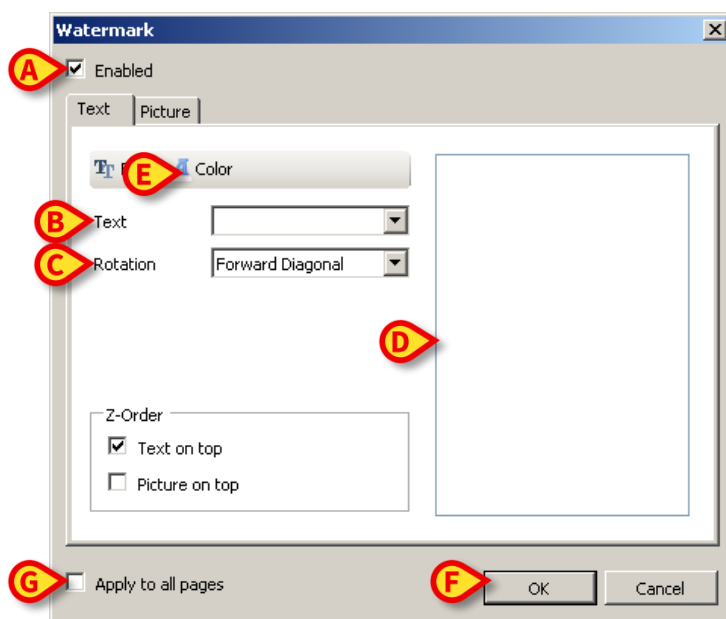

Fig 30
The following window is displayed (Fig 30).
- Ensure that the “**Enabled**” checkbox is checked (Fig 30 **A**). If not, the contents cannot be edited.
- Insert the text in the “**Text**” field (Fig 30 **B**).
- Use the “**Rotation**” menu (Fig 30 C) to specify the watermark orientation (diagonal, horizontal, vertical).
A print preview is displayed in the area indicated in Fig 30 D.
- Use the buttons indicated in Fig 30 E to select the watermark font and color.
- Click the **Ok** button (Fig 30 F).
If the “**Apply to all pages**” checkbox is selected (Fig 30 G) the watermark is applied to each page in the document, otherwise it is applied only to the current page.